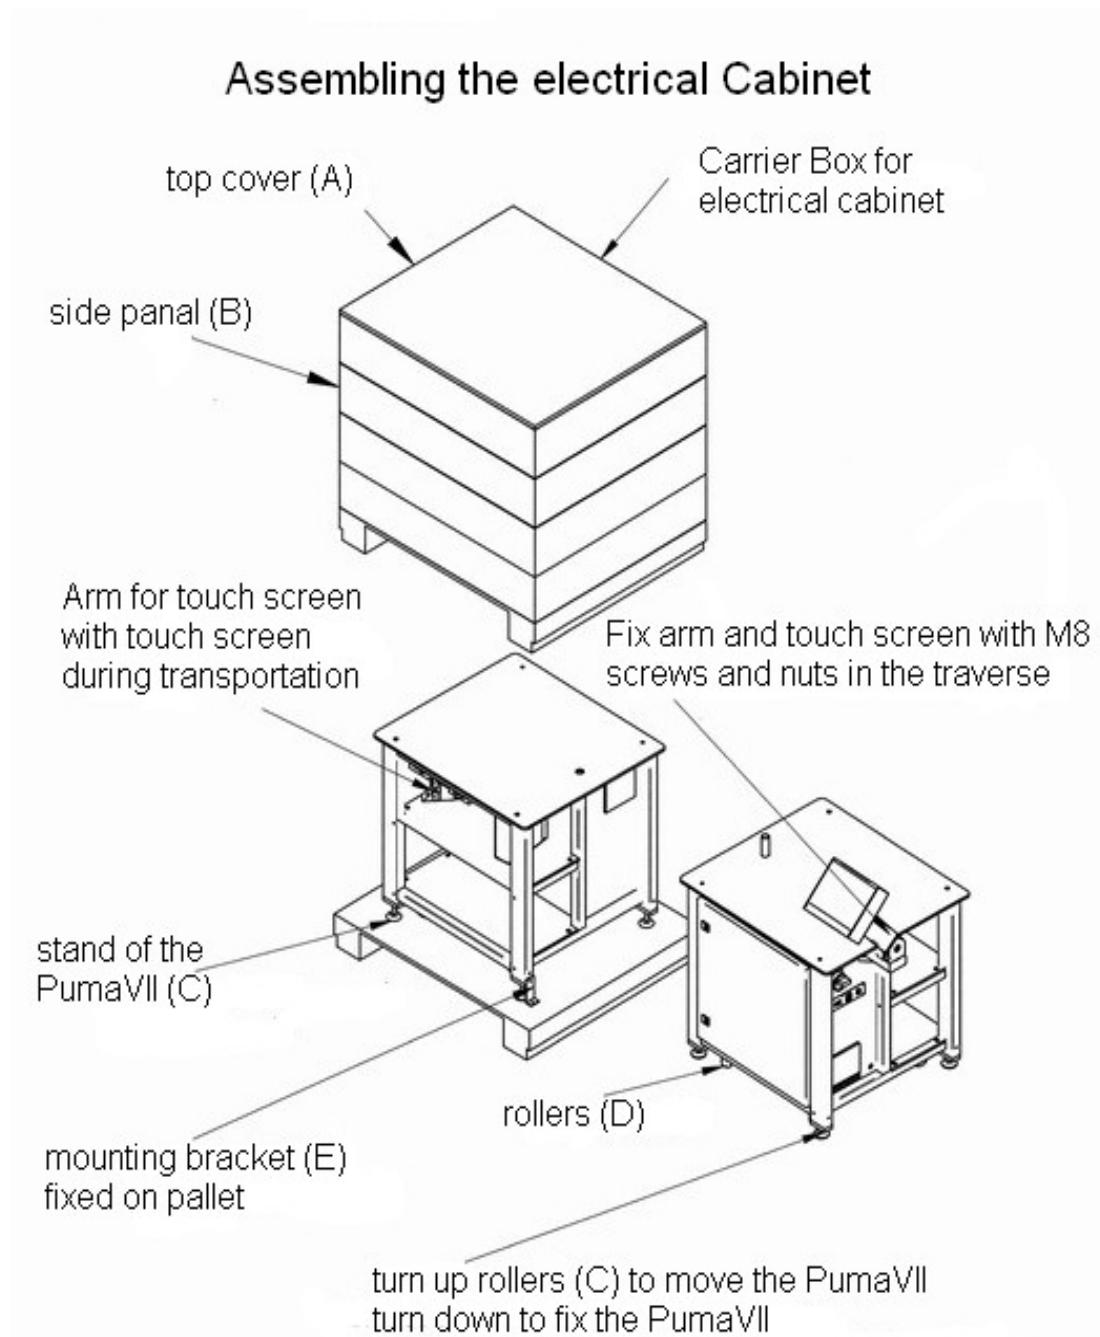

Figure 5: Assembling Electrical Cabinet
1. remove top cover 'A' with side panel 'B' (Figure 5 ).